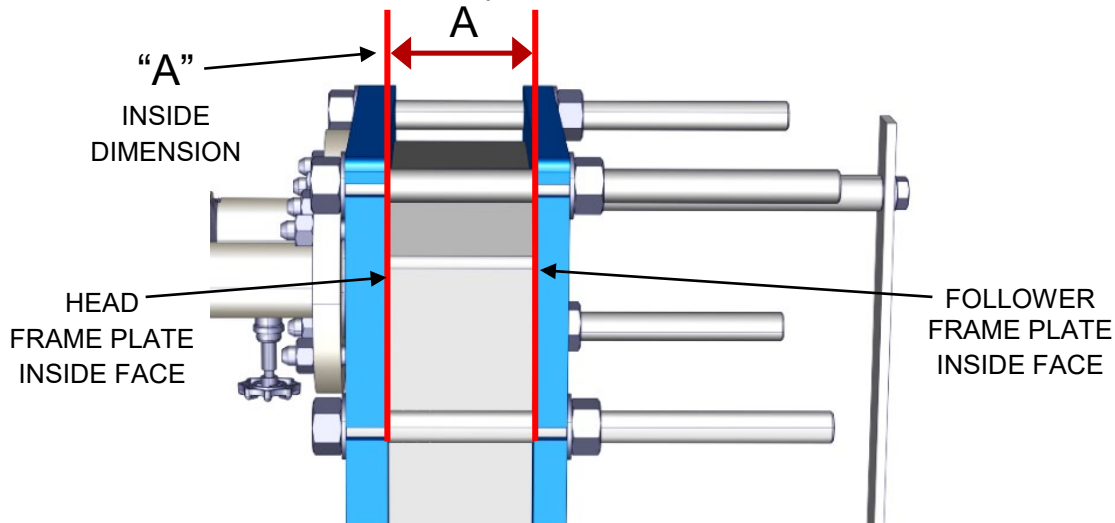

FIGURE 4-1: Critical Dimension "A"
IMPORTANT! The distance between the inside faces of the Follower frame plate and the Head frame plate ("A" in Figure 4-1) is listed in the service contract. If unavailable, then carefully measure and record it before disassembly, as this dimension is critical for proper reassembly.
6. Clean the exposed threads of the ten clamping bolts (Figure 4-1) and grease them.
5. Tightening is complete when the distance between the inside faces of both Follower and Head frame plates equals the "A" distance as shown in the datasheet or measurement (see Figure 4-1). This tightening distance can also be calculated using the following formula: $\text{Assembly distance} = \text{No. of plates} \times (\text{plate thickness} + \text{coefficient})$ the coefficients vary depending on the model type. If in doubt, please check with the relevant DHT Sales Office.